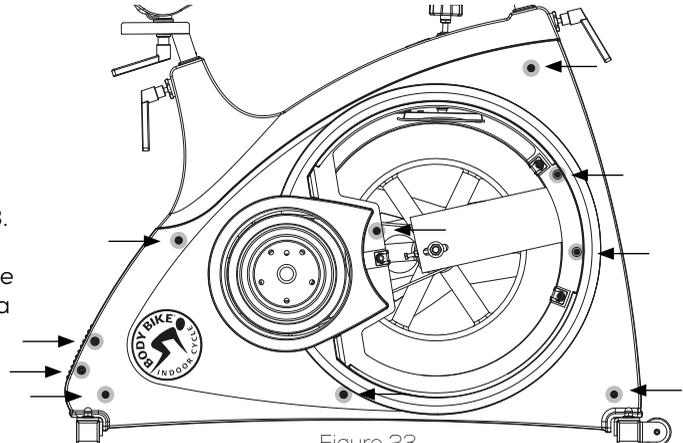

Figure 23
- 2) Loosen all the screws holding the side cover with a 3 and 4 mm Allen wrench and remove them. See figure 23.